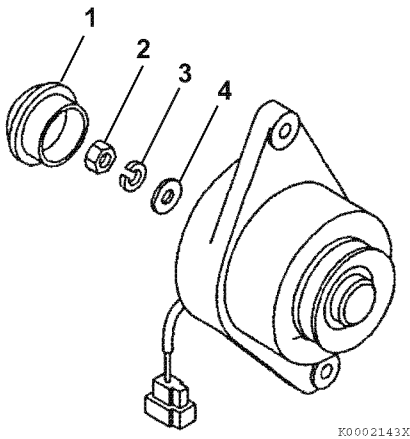

Figure 11-29
5. Reinstall the flat washer (Figure 11-29, (4)), lock washer (Figure 11-29, (3)), and nut (Figure 11-29, (2)). Tighten the nut to the specified torque.
6. Reinstall the rear cap (Figure 11-29, (1)).